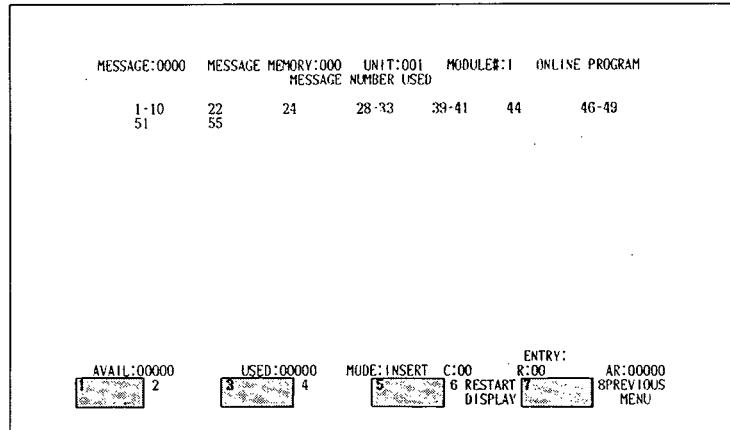

Fig. 7.20 Message No. Display (1)
- When all the message Nos. can be shown in one display, the display appears as that shown in Fig. 7.20 Message No. Display (1). When they cannot be shown in one display, the display appears as that shown in Fig. 7.21 Message No. Display (2).